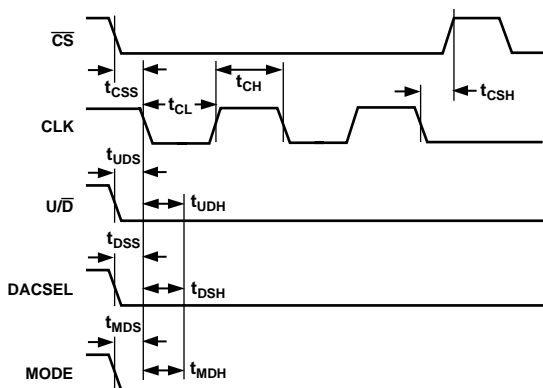

Figure 2. Detail Timing Diagram
The AD5222 provides a 128-position, digitally-controlled, variable resistor (VR) device. Changing the VR settings is accomplished by pulsing the CLK pin while  $\overline{CS}$  is active low. The  $U/\overline{D}$  (UP/DOWN) control input pin controls the direction of the increment. When the wiper hits the end of the resistor (Terminal A or B) additional CLK pulses no longer change the wiper setting. The wiper position is immediately decoded by the wiper decode logic changing the wiper resistance. Appropriate debounce circuitry is required when push-button switches are used to control the count sequence and direction of count. The exact timing requirements are shown in Figure 2. The AD5222 powers ON in a centered wiper position, exhibiting nearly equal resistances of  $R_{WA}$  and  $R_{WB}$ .